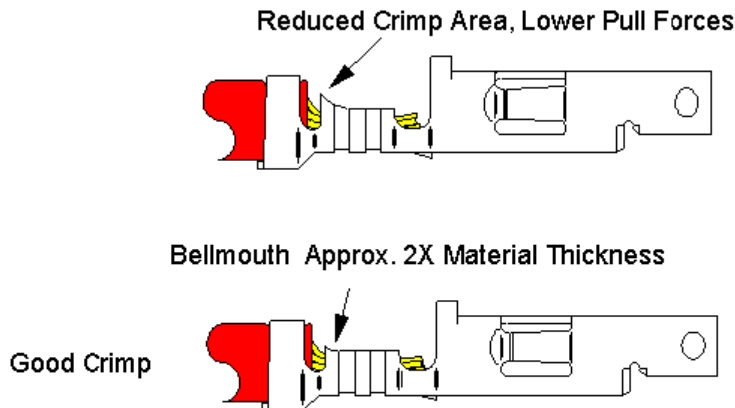

FIG. 18
5.2.10 Oversized Bellmouth (fig.18)